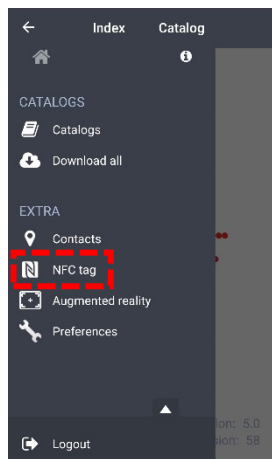

Figure 6
- Activate the NFC functionality on the smartphone (please refer to the specific user manual of the smartphone) and click on 'NFC tag' (Figure 6).